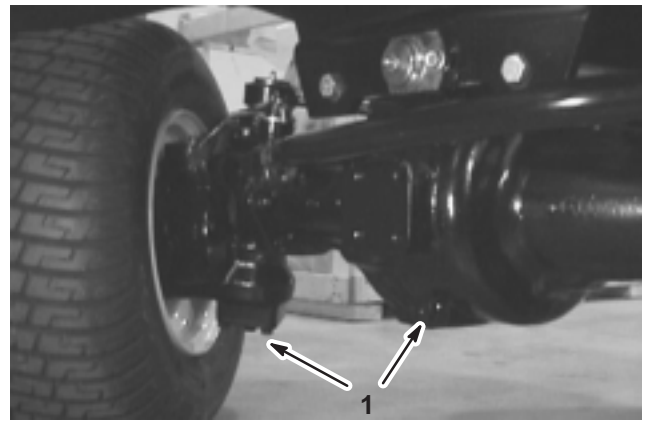

Figure 55
2. Clean area around the 3 drain plugs, one on each end and one in the center (Fig. 55).